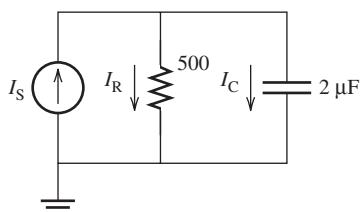

FIGURE P6.39 Circuit for Problem 6.39.
6.39 (A)* If $i_s(t) = 2 \cos(200t) A$ in Figure P6.39, find the steady-state expressions for I_R and I_C .
- 6.73** (B) If $i_S(t) = 2\cos(200t)$ in Figure P6.39, use PSPice to plot the current, I_R and I_C .